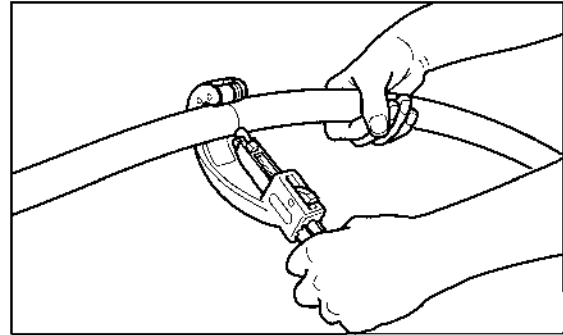

Figure: 4-47
1. Unreel pipe into trench or on the ground and cut to desired length plus one additional foot. Cutting up to 1" size can be done with a large tubing cutter. For 1-1/4 to 2 inch sizes, a reciprocating saw is recommended. Figure: 4-47